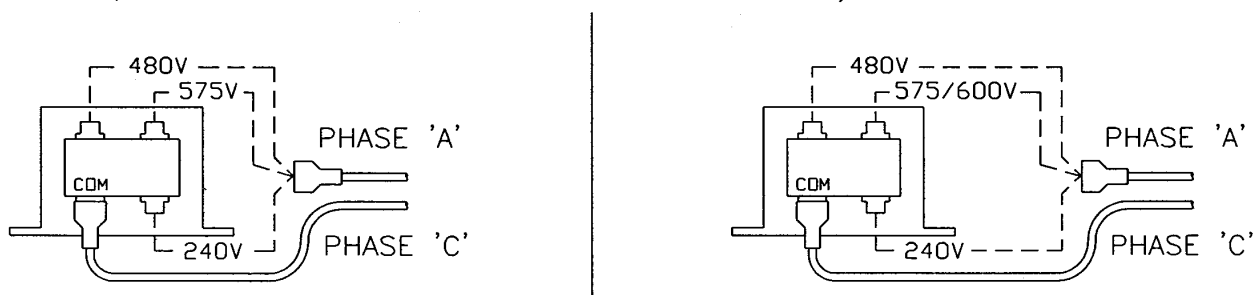

FIGURE 11.2
- Locate the Control transformer. Change the primary input connection in accordance with the voltage printed on the transformer. (Refer to Figure 11.2)